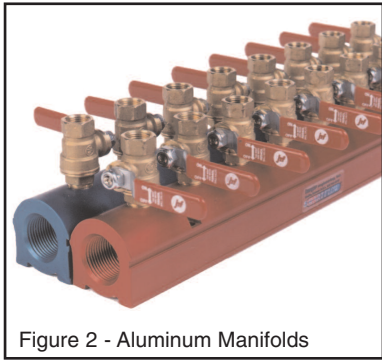

Figure 2 - Aluminum Manifolds
- Anodized aluminum manifolds (see Figure 2) are lightweight and easily customized. Their smooth bores mean lower pressure drop. The true cost of ownership is low.